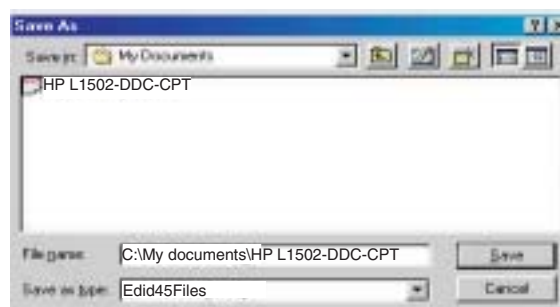

Fig. 25
- Click  (Save) icon (or click "file"-> "save as") from the tool bar And give a file name as shown in Fig. 25. The file type is EDID45 file (*.ddc) which can be open in WordPad. By using WordPad, the texts of DDC data & table (128 bytes, hex code) can be modified. If DDC TEXTS & HEX Table are completely correct, it can be saved as .ddc file to re-load it into DDC IC for DDC Data application.